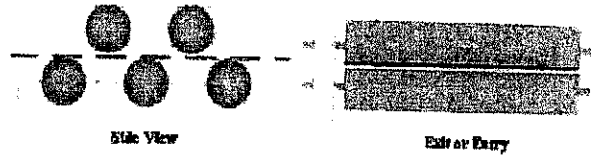

Fig. 1—A nonbacked-up, spread-center straightener.
1. Nonbacked up, spread-center straightener (Fig 1 next page).